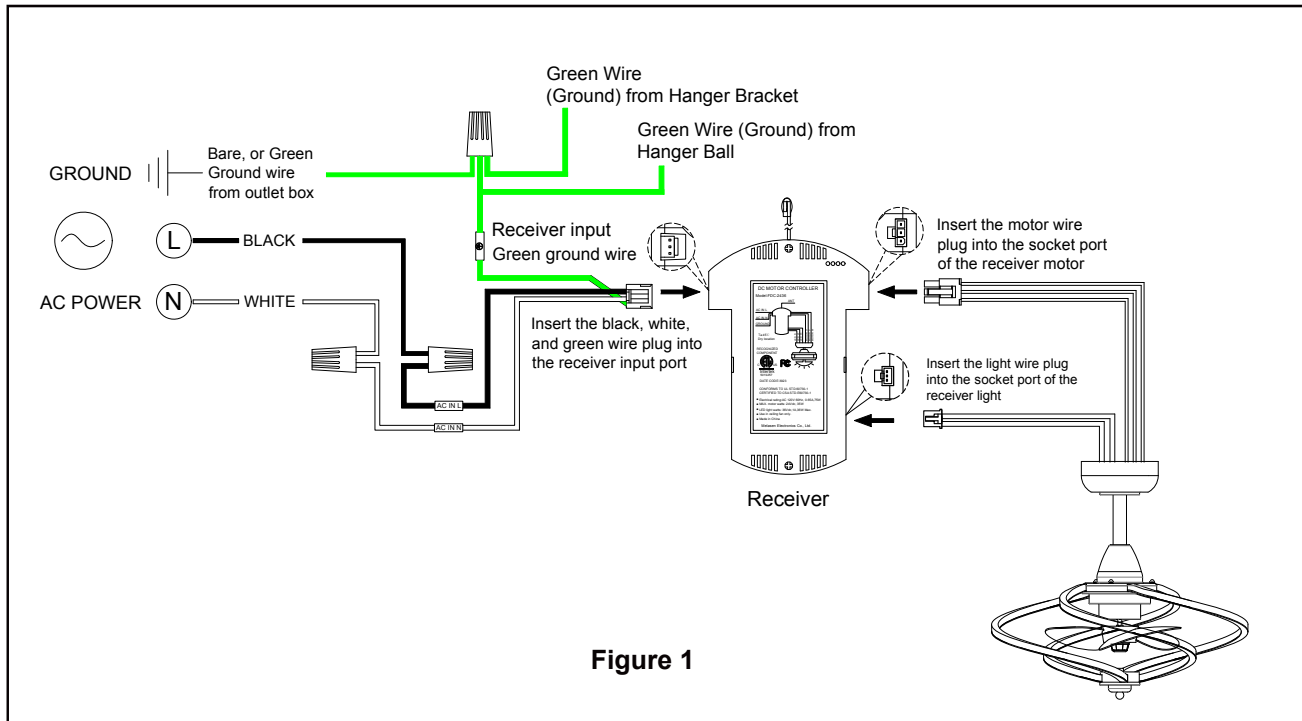

Figure 1
- (Figure 1)
- ☐ After all connections have been made, carefully push the connected wires into the outlet box. Ensure that the white and green (ground) wires are positioned on one side of the box and the black (hot) wire is positioned on the opposite side, as shown in Figure 1